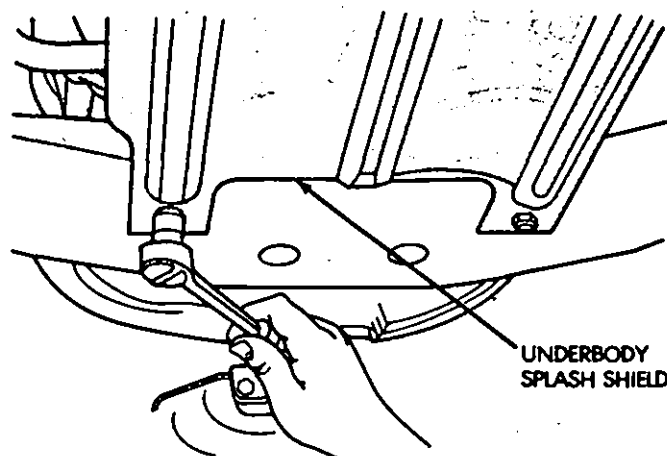

Fig. 2—Underbody Splash Shield
- (1) Disconnect the battery negative cable.
- (2) Support and raise the vehicle.
- (3) Remove the underbody splash shield (Fig. 2).